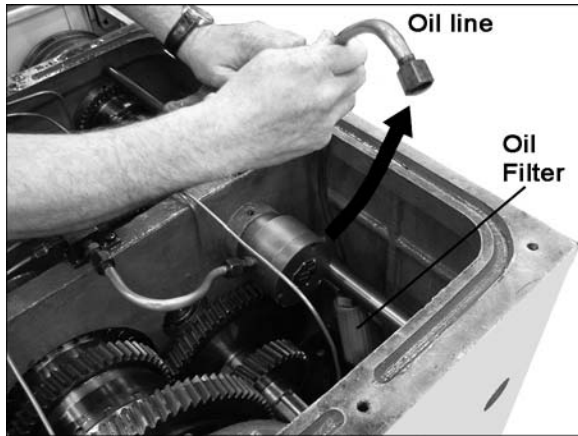

Figure 10 – Oil filter access
3. **Oil Filter** – The filter should be cleaned once a month. To access, open the top cover on the headstock, unscrew the nut on the oil line, and pull up the oil line to bring the filter up. See Figure 10. Use a brush to clean.